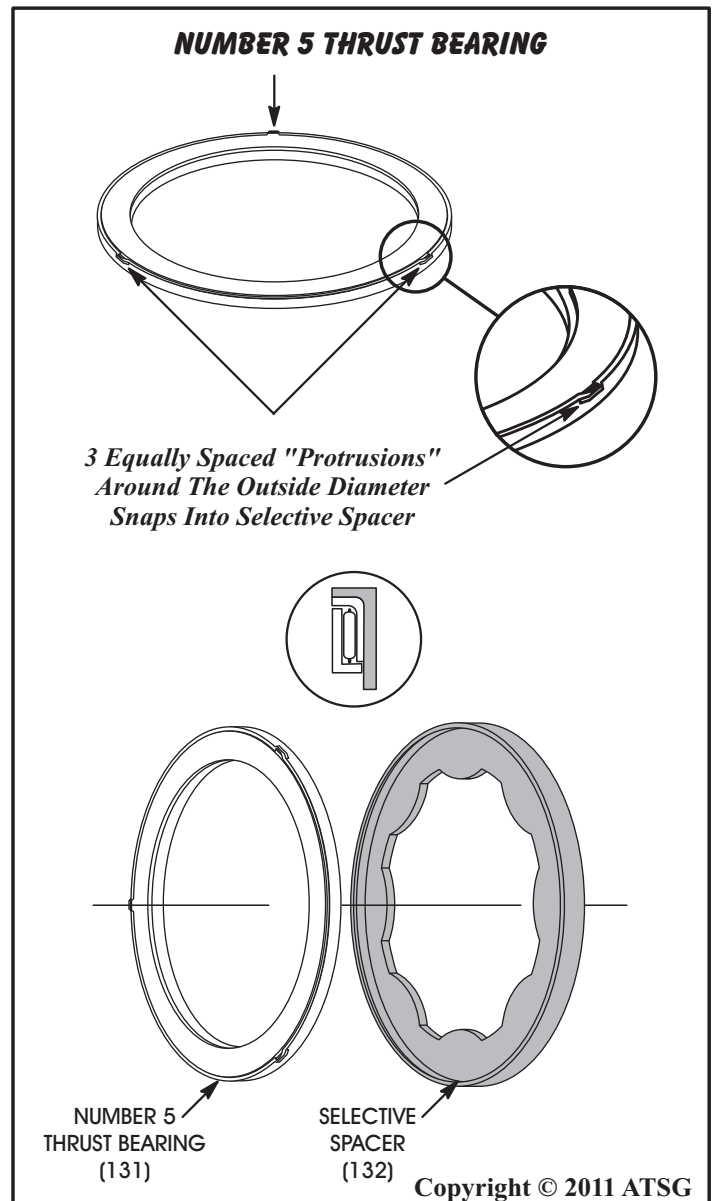

Figure 107
49. The number 5 thrust bearing is equipped with a selective spacer that snaps onto the bearing, as shown in Figure 107, and is used to adjust front transmission end-play.